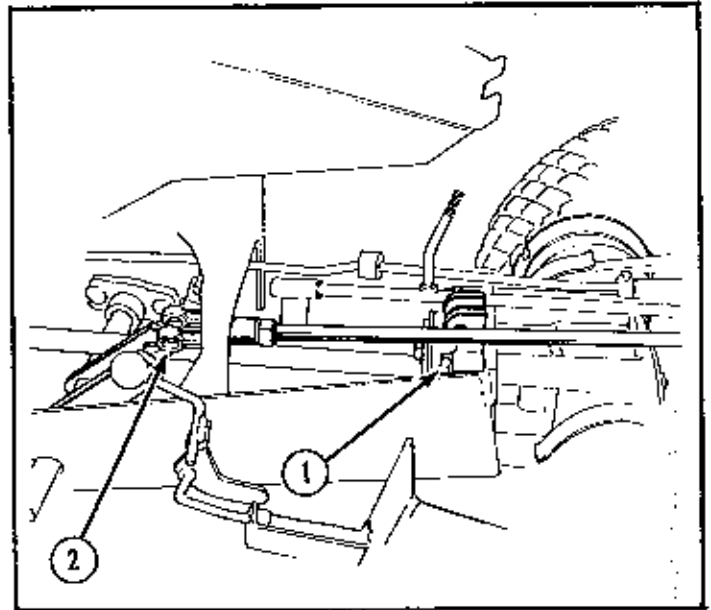

FIGURE 4
- E. Remove top two screws holding hevel gear housing to rear frame plate, install rear cylinder bracket, and secure with 3/8-16 cap screws provided. (1, Fig. 4)
- F. Remove pivot pin from front clevis on the left rod assembly (2, Fig. 4)